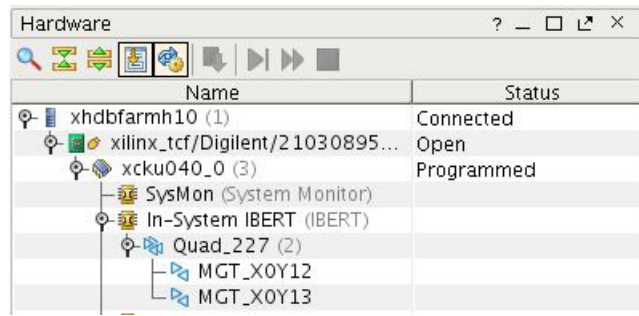

Figure 4-4: ISI Core detected
3. After programming the bit file successfully, you will see the ISI (IBERT) core detected as shown in Figure 4-4.